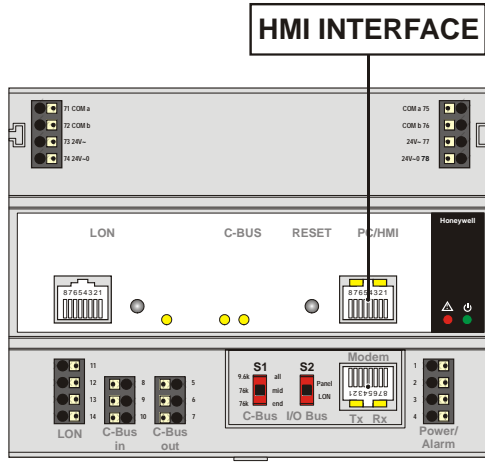

Fig. 7. Excel 800 Controller Module and MMI connection
- The Excel 800 Controller Module (XCL8010A) features an RJ45 serial connection on the front (see Fig. 7) for connection (using the XW882 cable; alternately: the XW582 together with the XW586) of Human-Machine-Interfaces (HMIs).